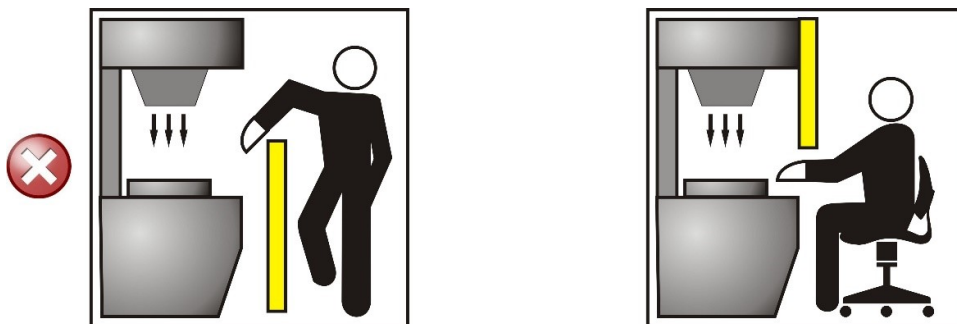
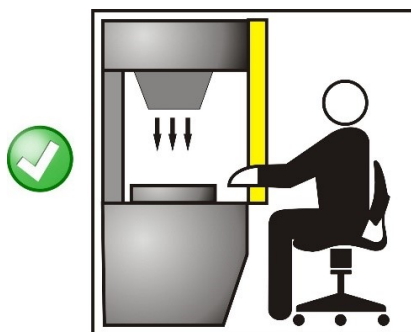

Figure 1 - Wrong light curtain positioning
Figure 2 - Correct light curtain positioning
**Figure 1 shows some examples of possible access to the machine from the top and the bottom sides. These situations may be very dangerous and so the installation of the safety curtain at sufficient height in order to completely cover the access to the dangerous area (Figure 2) becomes necessary.**